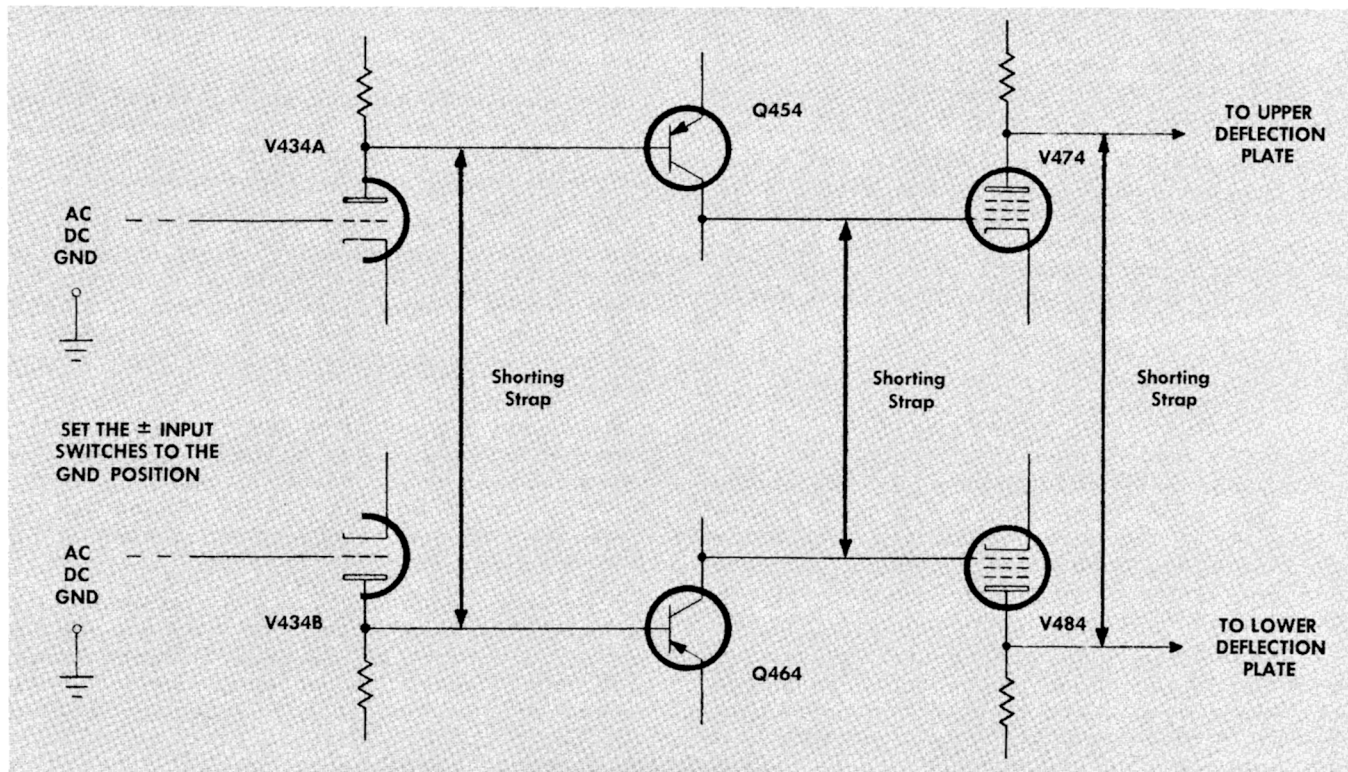

Fig. 5-3. Checking the Vertical Amplifier for an unbalance condition.
**No Spot or Trace.** As mentioned earlier in the troubleshooting procedure, if a spot is visible when the vertical plates are externally shorted together, but disappears when the short is removed, the Vertical Amplifier is in a state of dc unbalance. To locate the defective stage, first set both INPUT switches to the GND position and the SENSITIVITY switch to the .2 VOLTS/CM position. Then, with an insulated shorting strap, short between the points shown in Fig. 5-3, starting at the right and progressing toward the left. As you short between the points, in turn, the spot should appear on the screen as each connection is made. You may have to readjust the POSITION control when shorting between plates of the input stage. With the input stage grounded, the DC BAL. control may have to be readjusted.